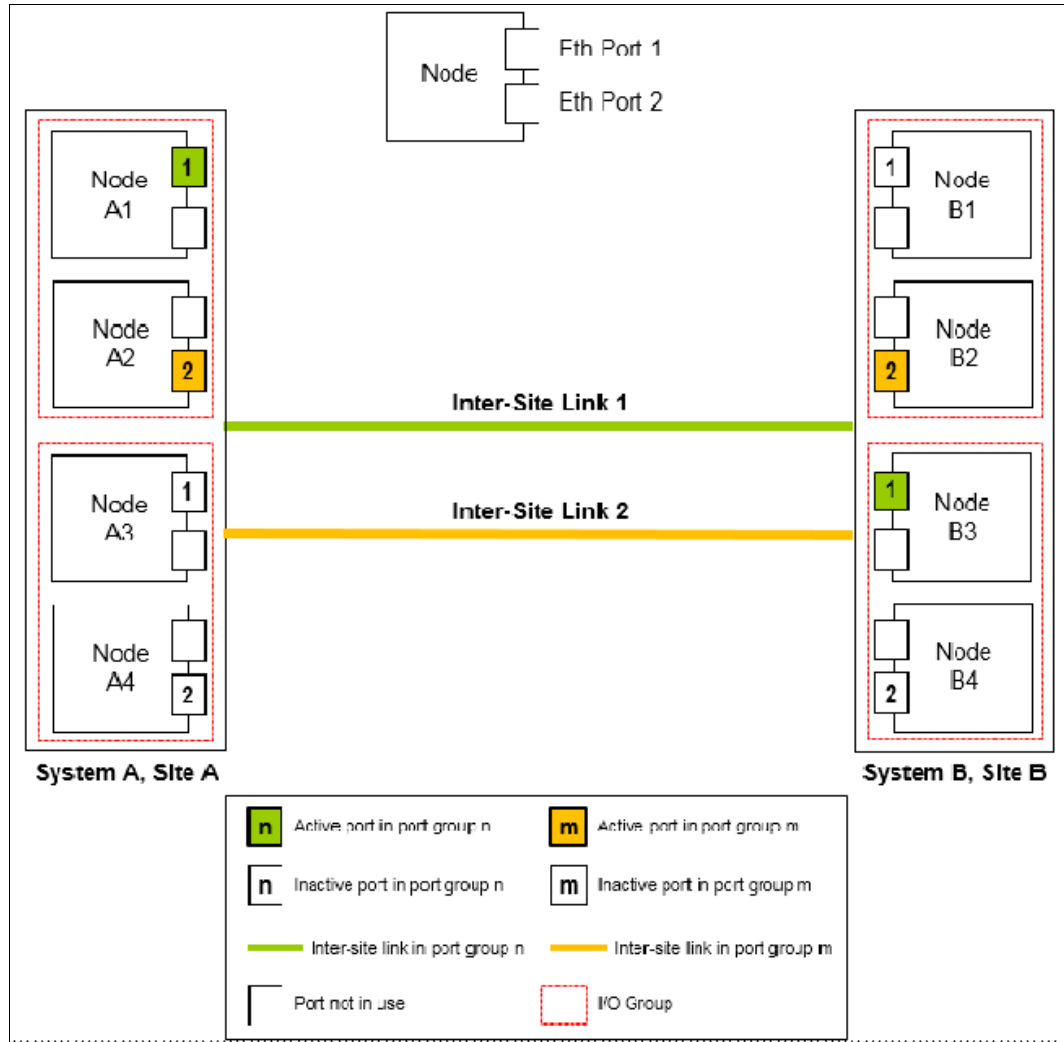

Figure 10-103 Multinode systems with dual inter-site links between the two systems
- ▶ Two 4-node systems in IP partnership with dual inter-site links, as shown in Figure 10-103 (configuration 6).
As shown in Figure 10-103, two 4-node systems are used: